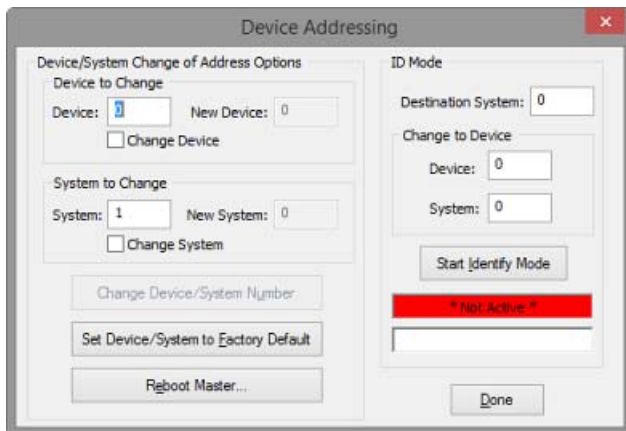

FIG. 44 NetLinx Studio - Device Addressing dialog
- If the TPI does not appear in the Online Tree in NetLinX Studio, make sure that the NetLinX Master System Number, which can be derived from NetLinX Studio's *Device Addressing* dialog (FIG. 44), is assigned correctly.
8. Enter the **System** and **Device** number for the NetLinX Master associated with your TPI, as indicated in NetLinX Studio's *Device Addressing* dialog (FIG. 44 on page 47).
- The Master's System Number can be derived from NetLinX Studio's *Device Addressing* dialog (see FIG. 44 on page 47).